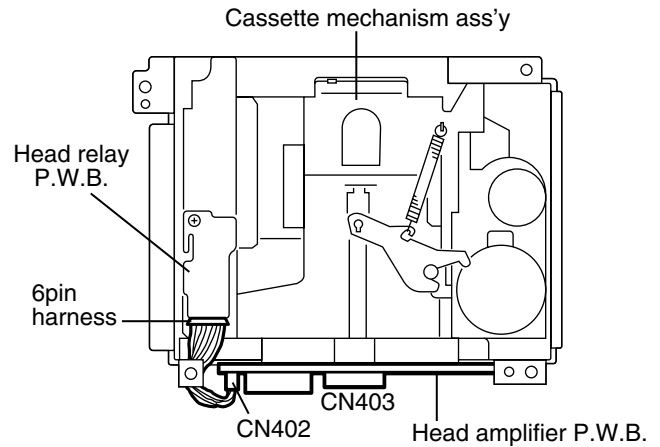

Fig.1
■ Removing the head amplifier P.W.B. (See Fig.1 and 2)
■ Removing the cassette mechanism assembly (See Fig.1 to 3)
1. Disconnect the 6pin harness from connector CN402 and the card wire from CN403 on the head amplifier P.W.B. (Refer to Fig.1 and 2).